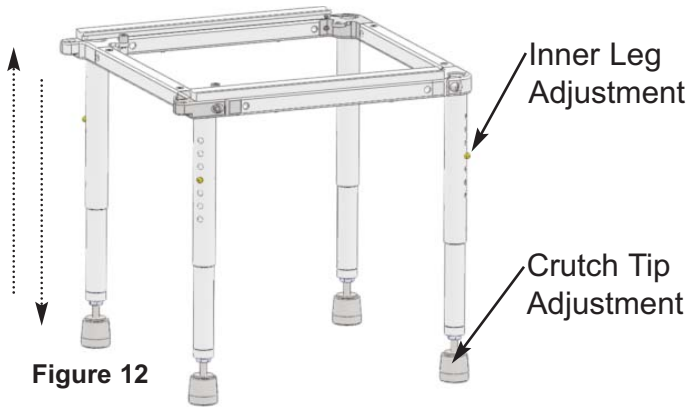

Figure 12
**D** Adjust the height of the tub section to match the height of the commode section by either adjusting the four inner legs (tub section) and/or the adjustable crutch tips (tub section) - Refer to Figure 12.